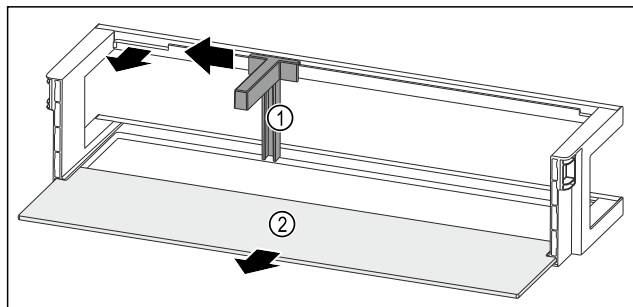

Fig. 249 Door rack with bottle holder and shelf
- Slide the bottle holder Fig. 249 (1) to the side as far as the recess.
- Remove the bottle holder Fig. 249 (1).
- Remove the shelf Fig. 249 (2).